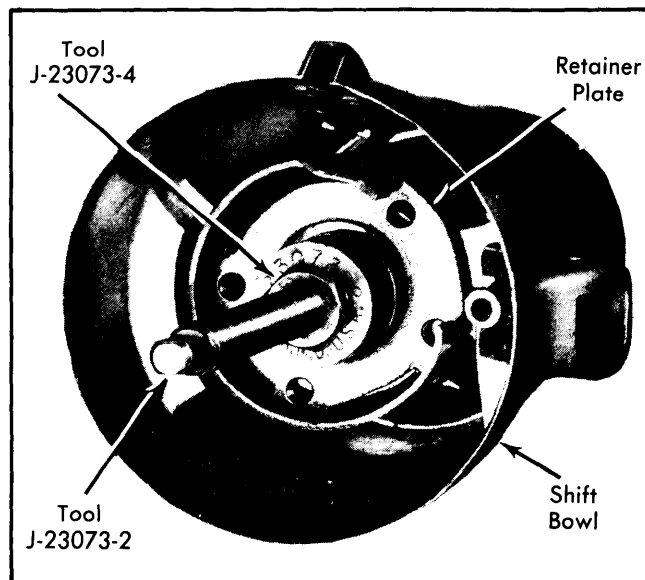

Fig. 13 Positioning Shift Tube Installer Tools
2) Install shift tube through lower end of column. Make sure tube spline is aligned with shift bowl keyway. Place shift tube installer tools (J-23073-2 and J-23073-4) in shift bowl. Make sure spring loaded lower foot of tool is engaged with shift tube inner shoulder and tool guide is seated in shift tube (see Fig. 13).